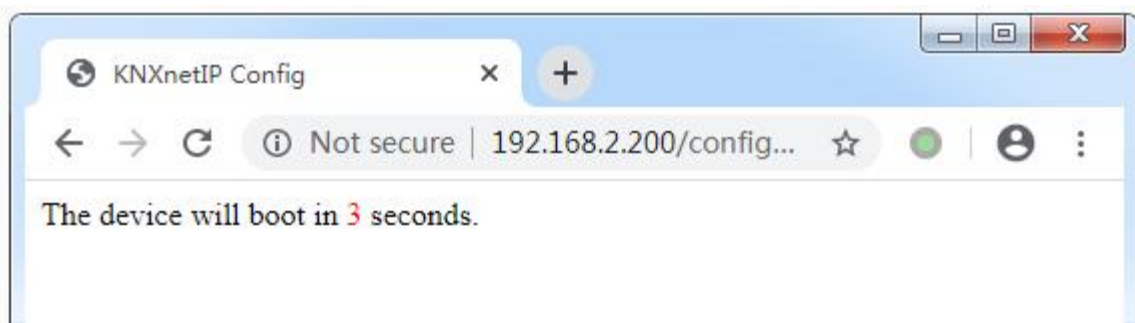

Fig. 6.2
- ① **Device Name:** Display or set the device name.
- ② **Software Version:** Display the firmware (software) version.
- ③ **Firmware Date:** Display the date of the device firmware.
- ④ **MAC Addr.:** Display the MAC address.
- ⑤ **IP GetMethod:** The method to get IP address. When the value is set to 1, it represents the fixed IP address. The custom IP address, subnet mask and default gateway can be entered below. When the value is set to 4, IP address is automatically assigned via the DHCP server.
- ⑥ **IP Addr.:** Display or set the IP address.
- ⑦ **Subnet Mask:** Display or set the subnet mask.
⑧ **Gateway:** Display or set the gateway.
⑨ **【Save And Reset】** : Click this button to save and reset after setting changes are completed. At this time, the page will jump to the window as shown in Fig.6.2, indicating that the device is restarting. After restarting, the page will automatically return to the configuration window.